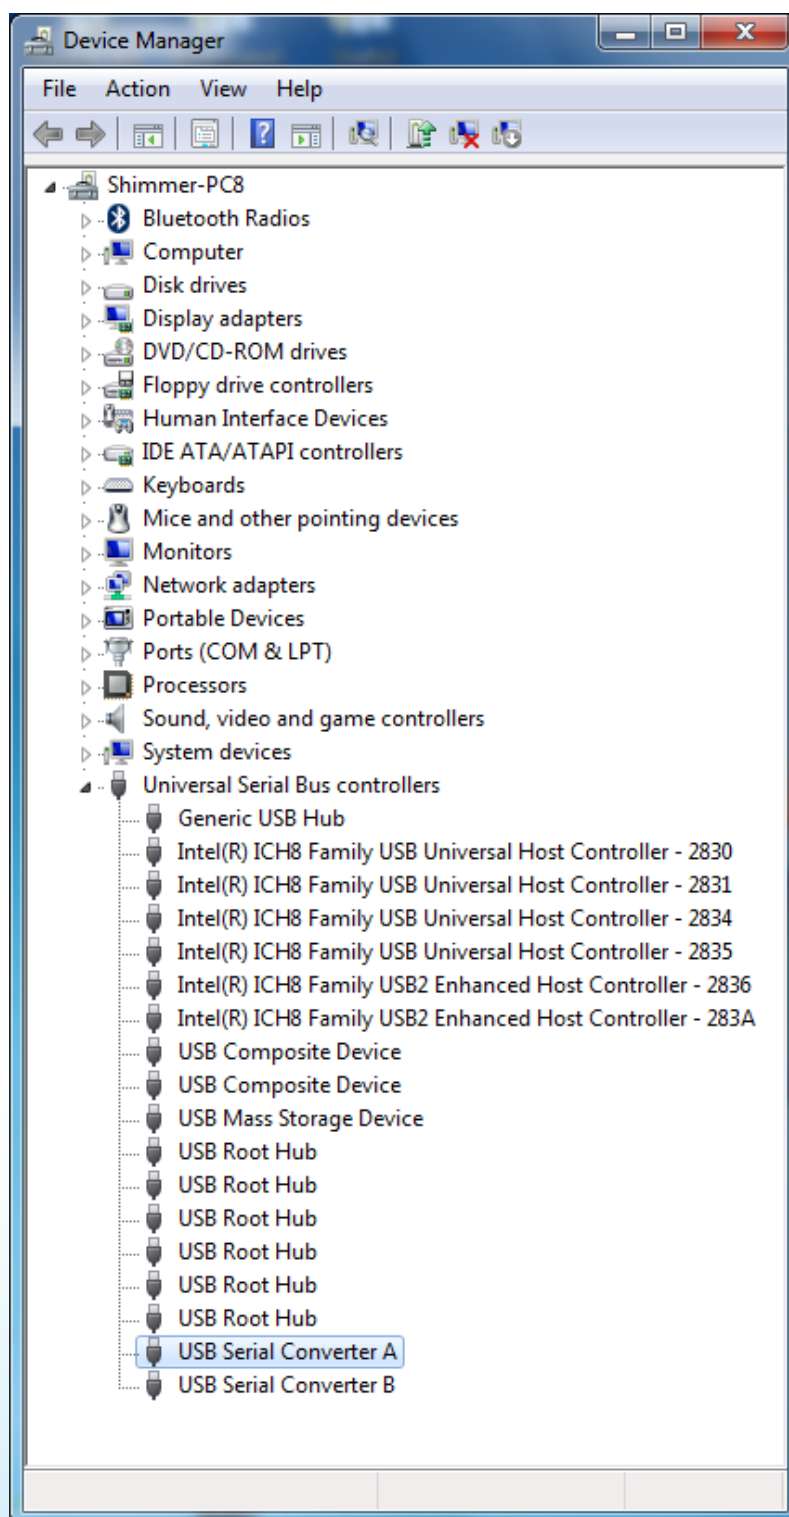

Figure 1-4 Device Manager showing USB Serial Converter A and B
- I. From the *Control Panel*, select *Device Manager* (in Windows this is found from *Control Panel* → *System* → *Hardware* → *Device Manager* or by typing *devmgmt.msc* in the Start menu) and expand the *Universal Serial Bus controllers* entry as shown in *Figure 1-4*.